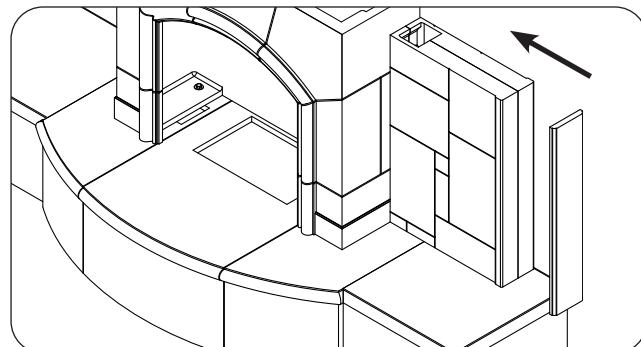

Fig. 25-3 Assemble end side-wall (skip if n/a)
4. Place the end side-wall piece against the front and rear side-walls as shown in Fig. 25-3 (no hardware required).